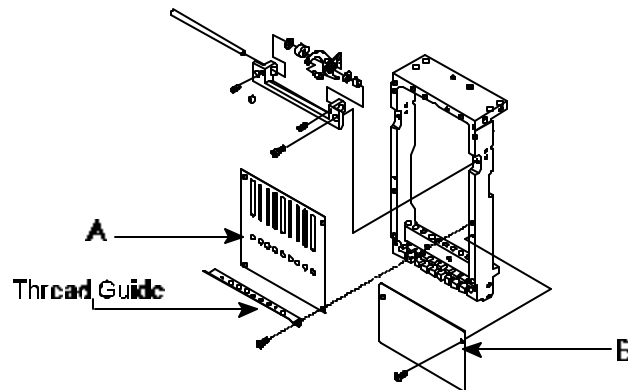

Figure 2
5. Using a Phillips Screwdriver, **remove** 6 screws from A, B Sewing Head Plates and Thread Guide . See *Figure 2*.